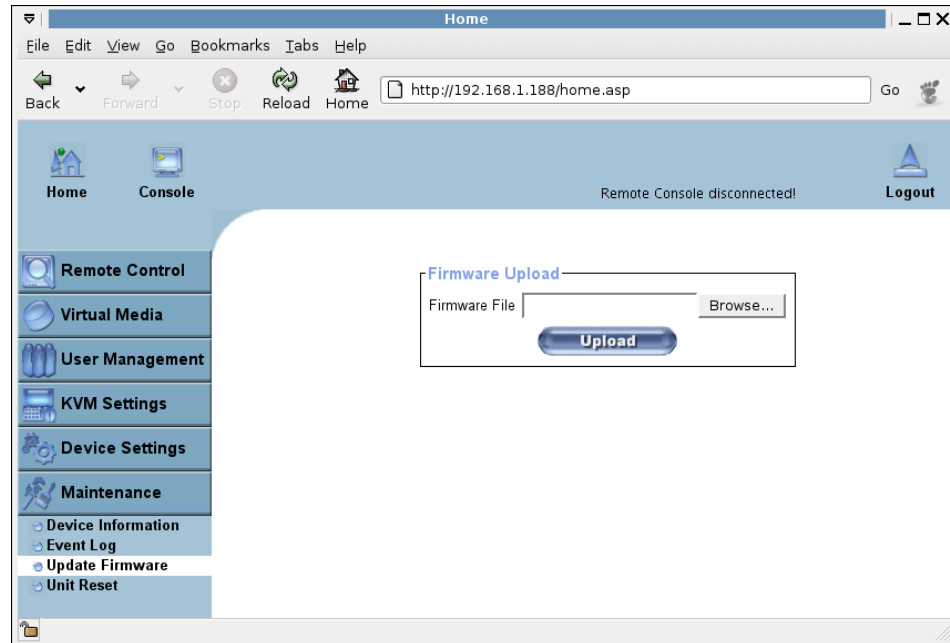

Figure 6-40. Update Firmware
- Firstly, the new firmware file is uploaded onto the eRIC express. In order to do that you need to select the file on your local system using the button “Browse” of the Upload Firmware panel (see Figure 6-40). Then, click “Upload” to transfer the previously selected file from your local file system onto the eRIC express. Once the firmware file has been uploaded, it is checked whether it is a valid firmware file and whether there were any transmission errors. In case of any error the Upload Firmware function will be aborted and the current firmware is kept as is.